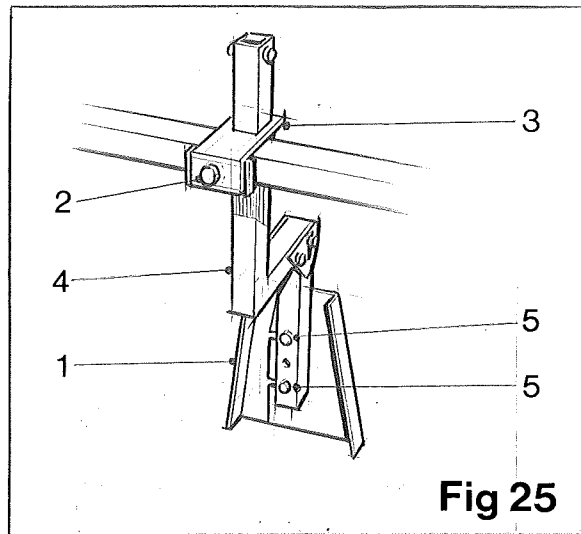

Fig 25
After moving the cage wheels it will be necessary to move the deflector flaps (item 1, fig 25) to a position centrally between the outsides of the lifting wheels. To adjust the deflector flaps (item 1, fig 25), loosen the securing bolt (item 2, fig 25) in the support clamp (item 3, fig 25) and move the flap support bracket (item 4, fig 25) until the deflector flaps (item 1, fig 25) are in the required position. Retighten the securing bolt (item 2, fig 25). It may also be necessary to alter the spacing of the flaps to fill the space between the lifting wheels. To do this, simply loosen the securing bolts (item 5, fig 25) and slide the flaps together or apart and then retighten.